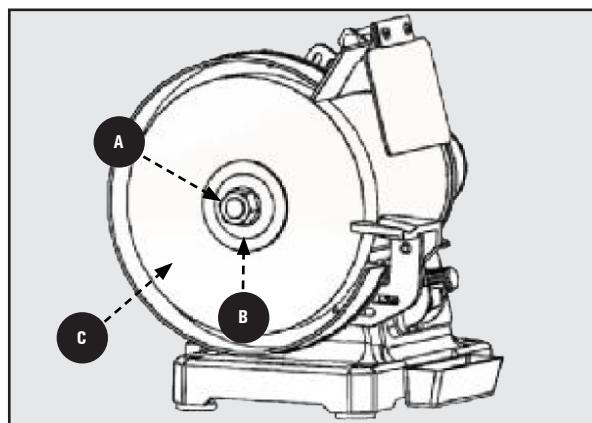

Figure 9
4. Remove the arbor nut **A**, wheel flange **B**, and old grinding wheel **C**. See Figure 9.